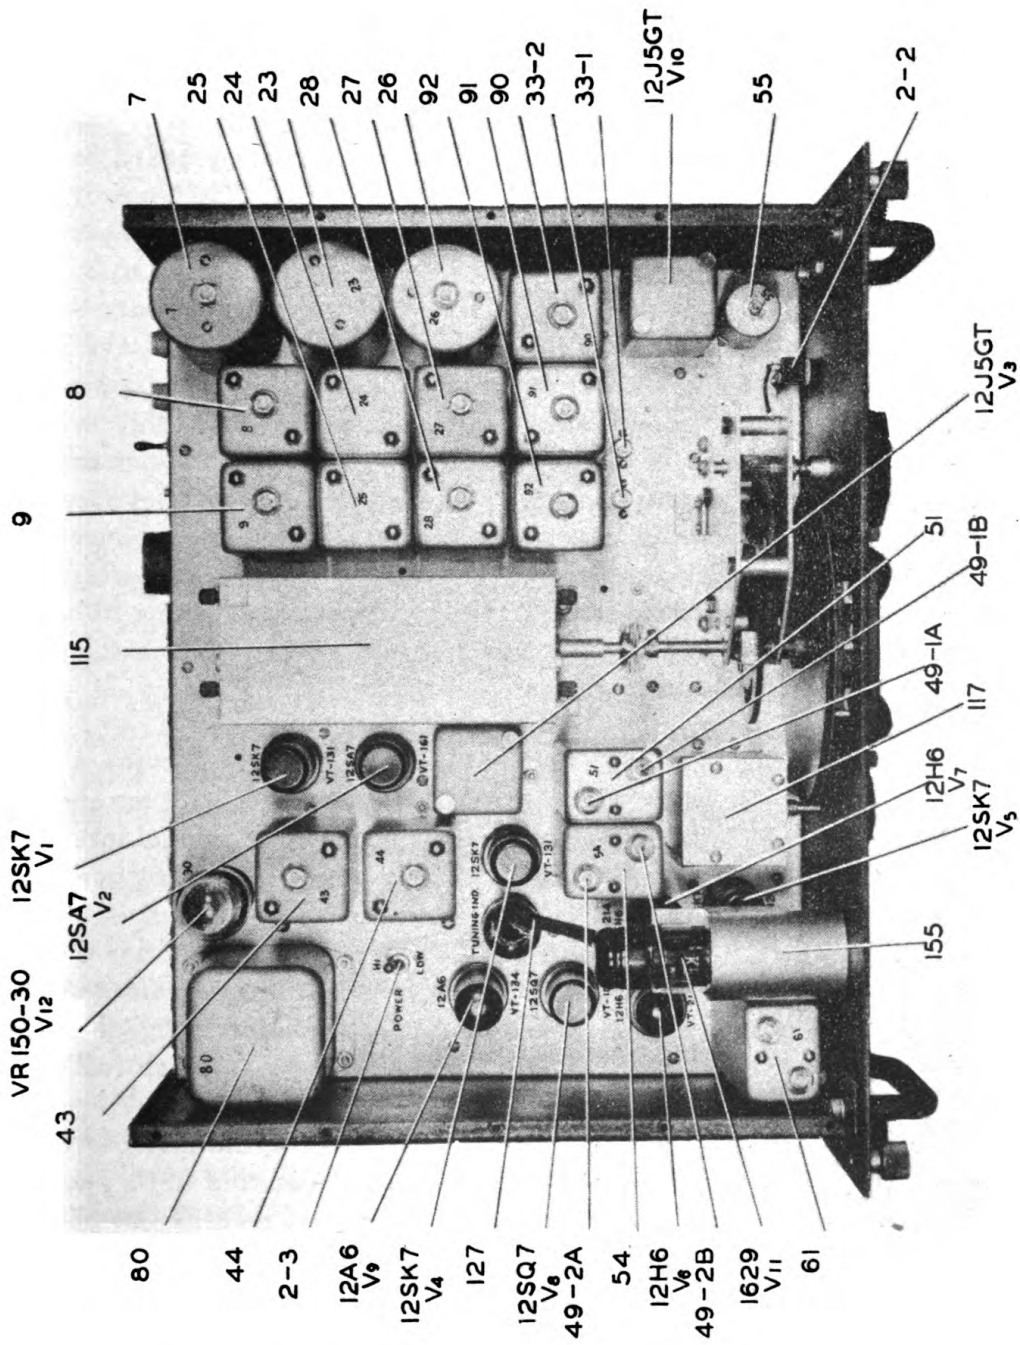

Figure 9. Radio Receiver BC-969-A, top view
c. Checking receiving tubes.—(1) To check the receiving tubes, it will be necessary to have the receiver case free in order to lift the cover. See NOTE in paragraph 31a(2).
(2) To check the beat oscillator tube (V_{10}) (figure 9), remove the tube shield; unscrew the two thumb screws and lift the shield off of its spacers. Look at the tube to see if the heaters are lighted. (Make sure the tube is firmly seated in its socket.) If the heaters aren't lighted, replace the tube from the spare tube kit. If the heaters are lighted and no whistle or increased hiss is heard when the BEAT OSC. PITCH knob is turned, check the VR 150-30 (V_{12}) tube. See if there is a purple glow
(2) Turn on the signal generator and receiver. Set the signal generator to 455 kilocycles. Turn the AUDIO GAIN control far enough to the right to note a distinct change of output when the signal intensity of the generator is changed. BE CAREFUL that you do not overload the output meter. MAKE SURE the signal of the generator is modulated. Turn the CRYSTAL SELECTIVITY switch to position 2 and readjust the signal generator at 455 kilocycles until a maximum signal is noted in the output meter. When you have a maximum signal in the output indicator, turn the CRYSTAL SELECTIVITY switch to OUT.
(3) Loosen the lock nuts on the trimmers of the last i-f transformer, (61) (figure 9). Adjust both trimmer capacitors until you get the maximum output signal. Set the lock nuts and recheck the output signal strength to see whether or not it was changed by "locking" the trimmers.
(4) Connect the negative and positive leads of the d-c meter to the GROUND and + (plus) terminals respectively, of the AUXILIARY DIODE terminal board on the back of the chassis (figure 2). Connect a shunt between the - (minus) and GROUND terminals. Turn off the signal generator modulation and, if necessary, cut down the output signal intensity from the generator so as not to overload the meter. Turn the CRYSTAL SELECTIVITY switch to position 3. Adjust trimmer (49-2B) (figure 9) of transformer (54) to maximum as indicated by the
(5) Disconnect the meter from the AUXILIARY DIODE terminals and switch on the modulation to the signal generator. Apply full voltage (1 volt) from the generator to the grid of the 12SA7 converter tube. Tune the frequency of the generator to exactly 470 kilocycles and adjust the trimmer on i-f transformer (44) (figure 9) to MINIMUM output. With full voltage still applied to the grid of the 12SA7, tune the generator to 485 kilocycles and adjust the trimmer of transformer (43) to MINIMUM output. After adjusting transformers (43) and (44) to minimum output, reset the generator to 455 kilocycles and check to see whether or not the output indicator shows a maximum peak at 455 kilocycles. If not, do the adjustments over again.
(3) Use a headset plugged into the OUTPUT receptacle on the front panel, or connect a speaker to the OUTPUT terminals on the back of the chassis. Then adjust the screw on the top of the beat oscillator transformer (55) (figure 9) until the signal heard in the headset or speaker is at its lowest pitch.
c. Alignment of r-f stage.—(1) Connect the output leads from the signal generator to the 100 ohm balanced antenna input receptacle through a 100 ohm resistor. Set the **FREQ. BAND** switch on band 1. Make sure the antenna switch located on the back of the chassis (figure 2) is in the 100 ohm position, that is, with the switch arm down, and that the slot in the **ANT. TRIMMER** is in line with the black line on the chassis. The black half of the trimmer must be to the right and slightly down. Tune the signal generator to 28 kilocycles, set the receiver calibration to the same frequency and adjust the variable trimmer capacitors of the oscillator transformer (90), r-f transformer (26) and antenna transformer (7) (figure 9) for maximum output. When the above adjustments have been made, set the signal generator and receiver to 15 kilocycles. Adjust the padder (34) capacitance, located on the side of the chassis (when the receiver is in an upright position and the panel is towards you), to maximum output. Retune the receiver slightly and see if output increases. If it does, tune to maximum output and again readjust the padder (34), retune again and proceed with alternate padder adjustment and retuning until the output cannot be increased further by either retuning or padder adjustment. Retune to 28 kilocycles and, if necessary, readjust the oscillator trimmer to maximum.